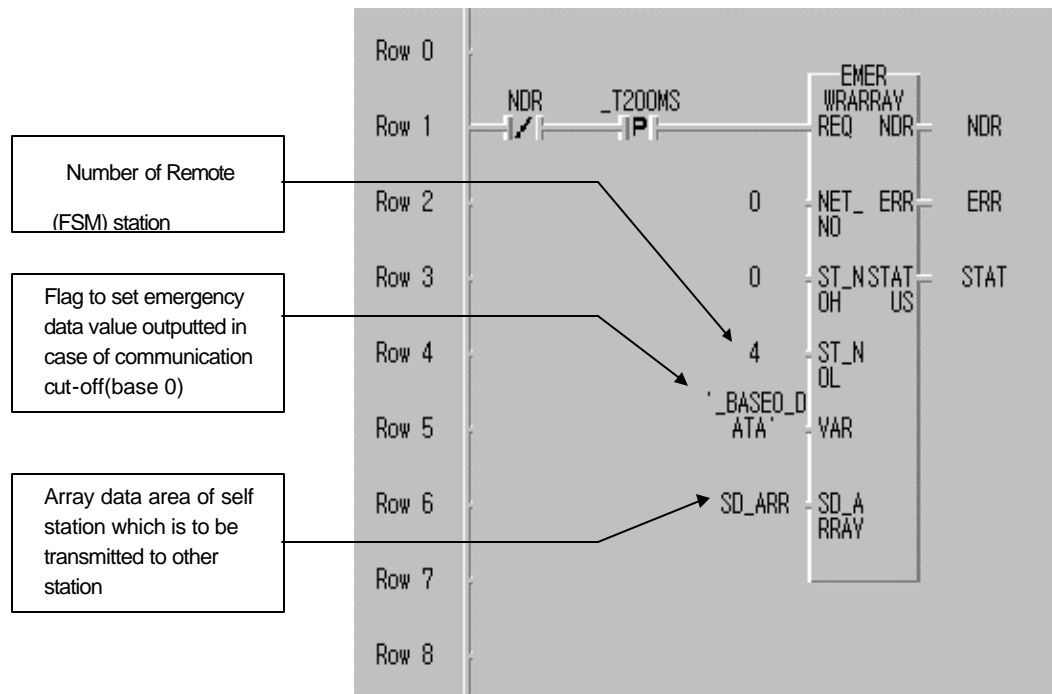

Fig. 6.6.7(D) Ex. of emergency data output program using _BASEx_DATA flag
Fig. 6.6.7(D) shows an example that transmits user-defined emergency data to remote station using _BASEx_DATA of FSM communication flag by GMWIN program. WRARRAY is used for *function block* as shown in Fig. 6.6.7(D). NET_NO indicates slot location that communication module(FMM) that this communication block is executed is mounted. Set ST_NOH to '0' and enter station number of remote module into ST_NOL. Use '_BASE0_DATA' flag(if remote 0 base) for variable identifier(VAR) to be transmitted to other station, and set SD_ARR that array data of self station to be transmitted to other station(station 04) to SD_ARRAY.
Specify data type as 'Array (0.. 31) OF WORD' in 'Variable add/edit' list as Fig. 6.6.7(E). (Set array number to 32 and set type to word type, because a slot is fixed with 4 word and a base can mount up 8 slot)